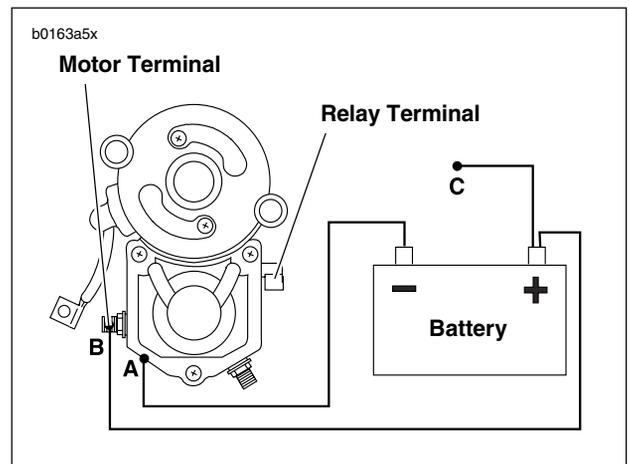

Figure 5-14. Return Test
- See Figure 5-14. With test leads still connected in the manner specified at the end of the previous SOLENOID HOLD-IN TEST, **disconnect solenoid relay terminal/positive battery post test lead (C) at either end.**